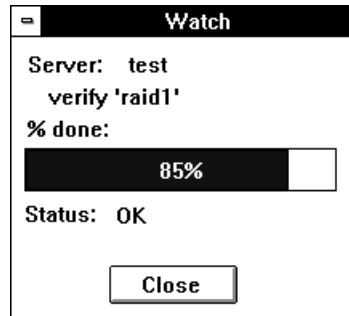

Figure 7-3. Watch Window
- 3 Click **Watch**. A small Watch window for this activity appears, as shown in Figure 7-3. Each window has a percent complete graph and a Status field (OK or Failed). If a Verify operation is running, there is also a field listing the number of mismatches found. Click **Close** to close the Watch window after the activity has completed.